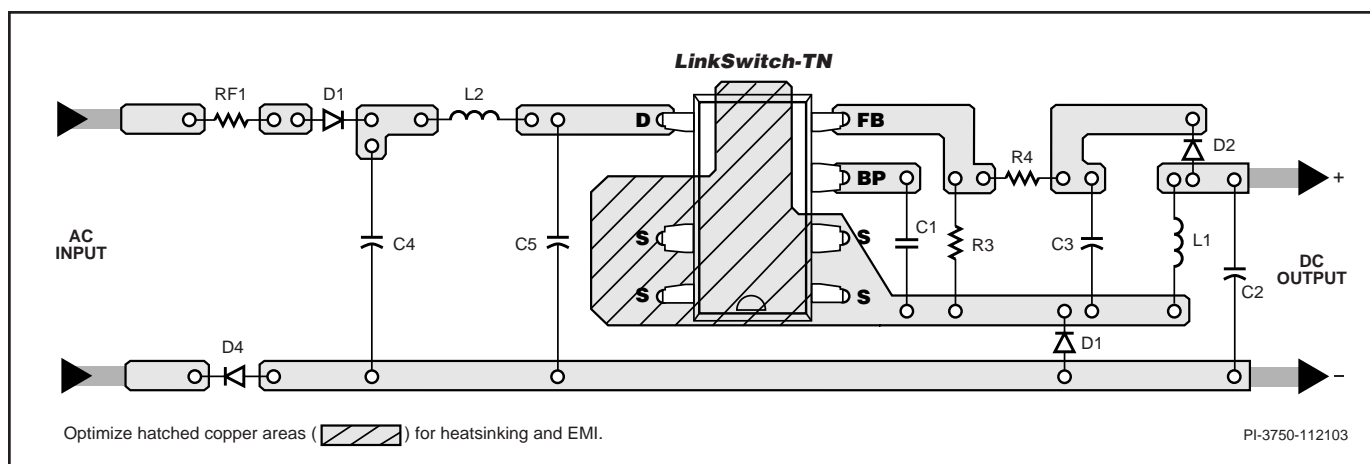

Figure 6. Recommended Printed Circuit Layout for LinkSwitch-TN in a Buck Converter Configuration.
The loop formed between the LinkSwitch-TN, inductor (L1), freewheeling diode (D1), and output capacitor (C2) should be kept as small as possible. The BYPASS pin capacitor C1 (Figure 6) should be located physically close to the SOURCE (S) and BYPASS (BP) pins. To minimize direct coupling from switching nodes, the LinkSwitch-TN should be placed away from AC input lines. It may be advantageous to place capacitors C4 and C5 in-between LinkSwitch-TN and the AC input. The second rectifier diode D4 is optional, but may be included for better EMI performance and higher line surge withstand capability.